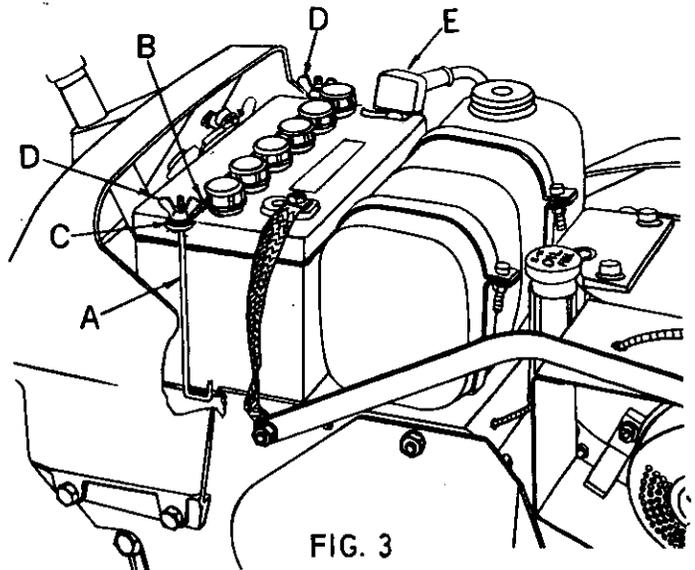
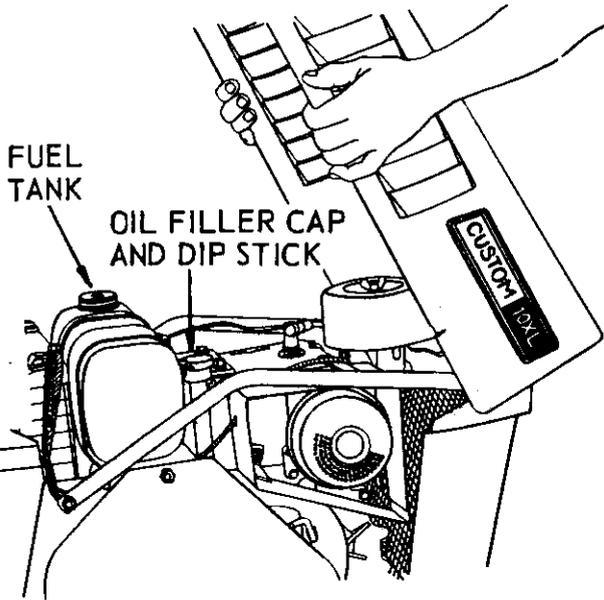

FIG. 3
FIG. 8
2. Lift cowling, refer to Fig. 8, and install battery in battery box so that (+) positive and (-) negative terminals are to front of tractor as shown in Fig. 3. Secure battery to battery support with two battery bolts (A), battery clamp (B), washers (C) and wing nuts (D). (Bolts, clamp, washers and wing nuts shipped in plastic bag.)
5. Be sure terminal cover (E, Fig. 3), is in place on positive terminal.